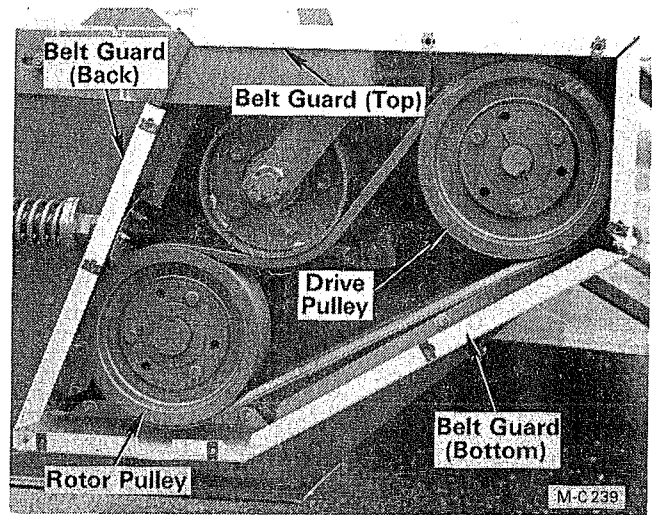

Figure 31
- Remove the belt guard cover and place a straight edge across the face of the drive and rotor pulley, see Figure 31.